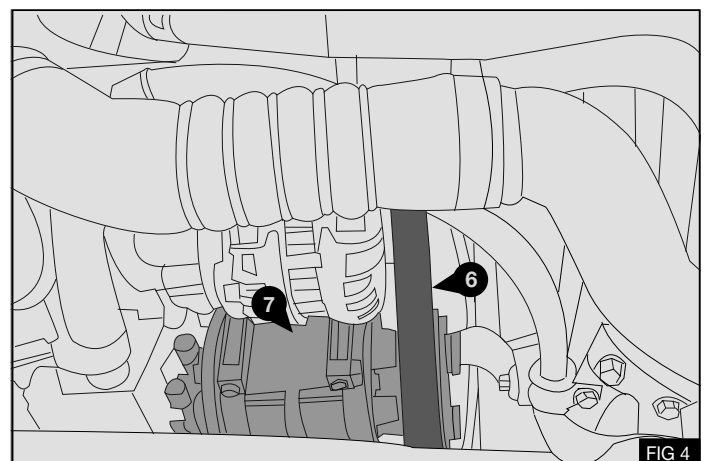

FIG 4
1. Fit the supplied replacement poly groove engine drive belt **(6)** to the engine in the same configuration in accordance with the original manufacturers design - Fig.4/5/6